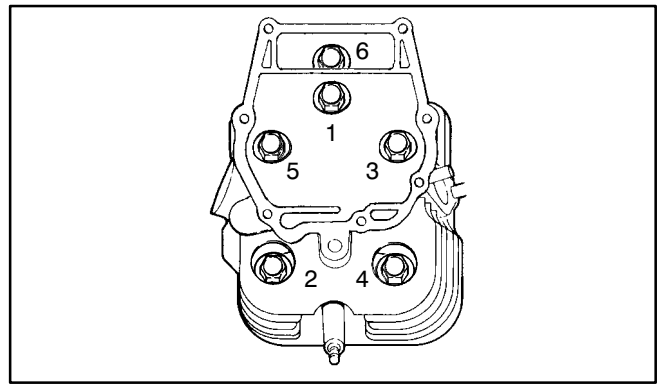

FIGURE 10-5. HEAD TIGHTENING SEQUENCE
6. Place the head in position and follow the head torque tightening sequence shown in Figure 10-5. Start out tightening all bolts to 11 lb-ft (15 N-m), then tighten to the specified torque (see Section 4. *Torque Specifications*).